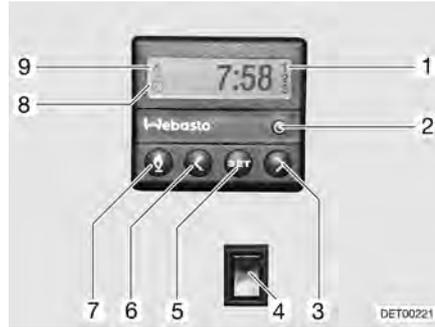

Fig. 168 Operating unit for independent vehicle heater
Switching on manually: ■ Press the button (Fig. 168,7). The heating mode is displayed by the symbol (Fig. 168,9). The fan will only be switched on when there is a coolant temperature of 30 °C.
Switching off manually: ■ Press the button (Fig. 168,7). The symbol (Fig. 168,9) goes off.
Switching on the engine heating: ■ Press the lower part of the switch (Fig. 168,4). Engine is preheated. The fan is switched on immediately.
Switching off the engine heating: ■ Press the upper part of the switch (Fig. 168,4). Engine stays cold.
Setting the time: ■ Press the button (Fig. 168,2). The time setting is displayed by the symbol (Fig. 168,8).
■ Set the time with the buttons (Fig. 168,3 and 6).
Programming heating start: ■ Press the button (Fig. 168,5).
■ Set the switching on time within ten seconds, with the buttons (Fig. 168,3 and 6).
Selecting programmed switching on time: ■ Keep pressing button (Fig. 168,5) until the selected programme number (Fig. 168,1) appears in the display.